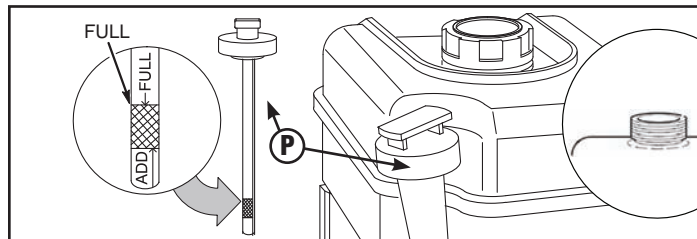

Figure 6
1. Remove oil dipstick (P, Figure 6). Check oil level. Oil level should be between FULL and ADD marks. Reinstall oil dipstick.